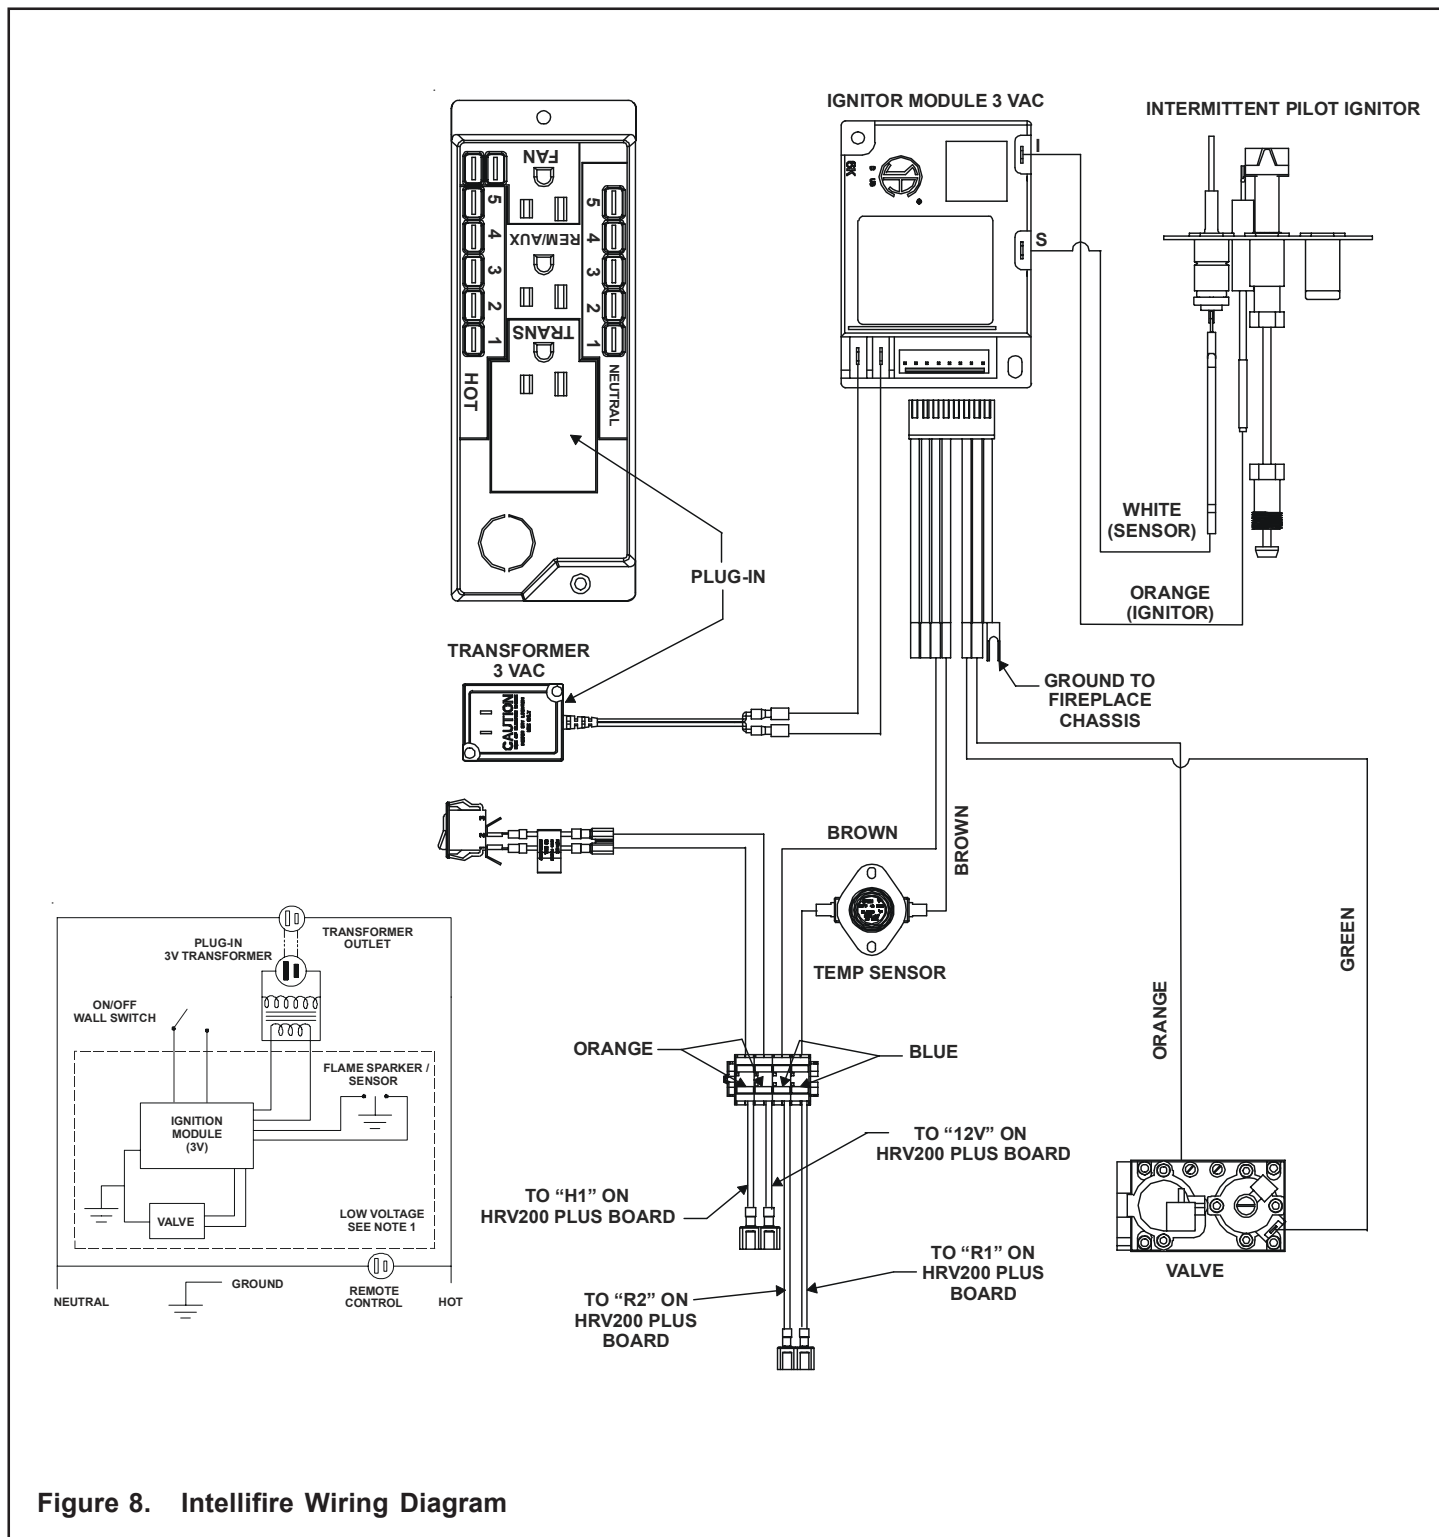

Figure 8. Intellifire Wiring Diagram
- ➔ This appliance comes with a 3 volt transformer. The transformer plugs into the junction box, and the two leads plug into the green control module (see Figure 8).